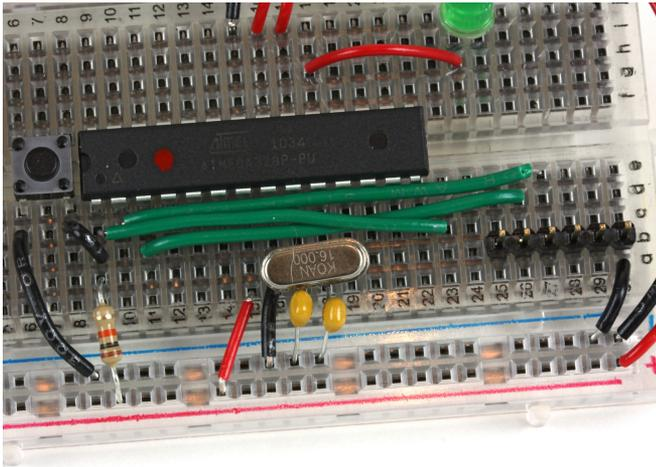

Figure 1-8. *The programming header connected to the ATmega*
8. The final step is to add a 1/2” piece of black wire from “a30” to the ground rail (-) of the breadboard. Figure 1-8 shows the completed connections.